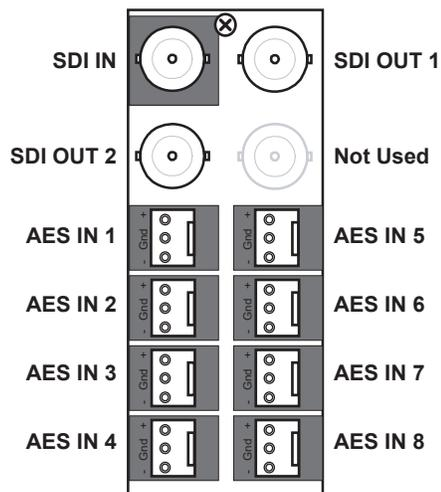
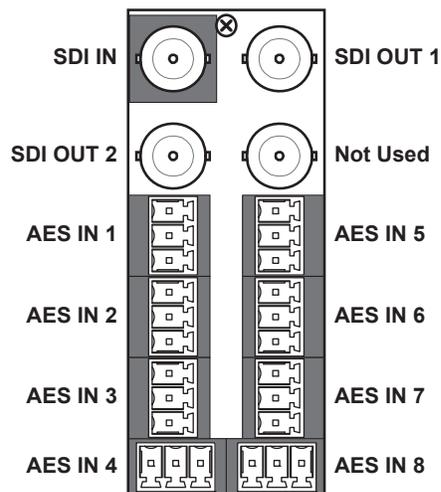

Figure 19 Cabling — 8320AR-062-02
Figure 20 Cabling — 8320AR-062-03
**Figure 19** illustrates the cabling designations for the 8320AR-062-02 rear module. **Figure 20** illustrates the cabling designations for the 8320AR-062-03 rear module.